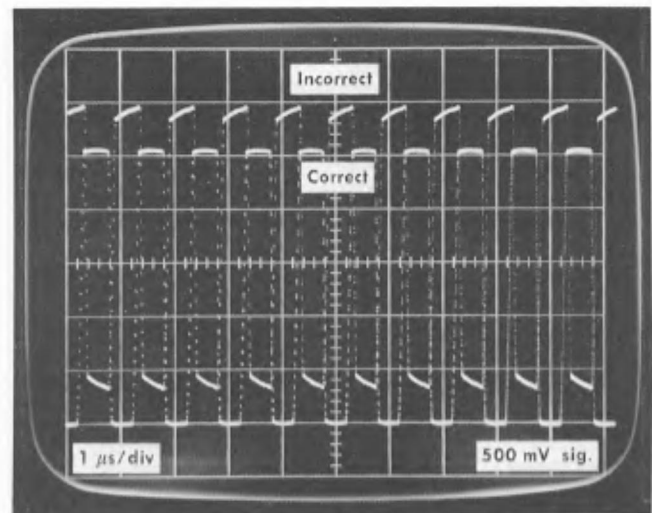

Fig. 5-11. Double exposure while adjusting R13, Transient Response control.
b. The display should be one cycle per division with the square wave top and bottom flat (parallel to a graticule line). Fig. 5-11 is a double exposure showing a correct adjustment of the TRANSIENT RESPONSE control, and an incorrect adjustment. The tilt of the square wave can be either rising or falling when R13 is not correctly adjusted.